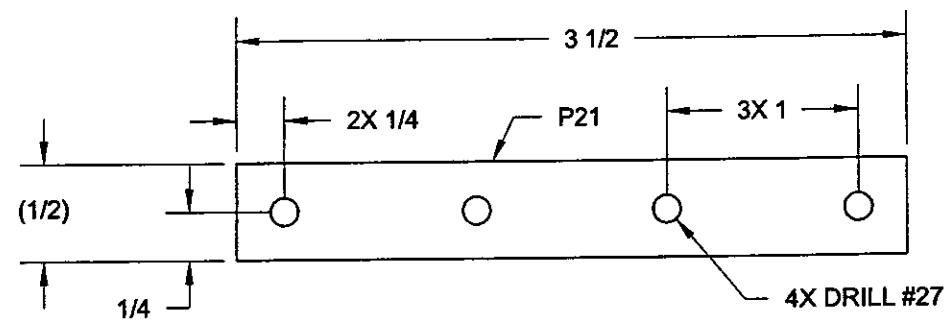

FIGURE 3: FABRICATING CIRCUIT BREAKER BUSS BAR
Step 3: Fabricate the P21 and P22 Buss Bars from ES BUSS BAR-063X.5X12 copper plate as shown in Figures 3 and 4. The WH-801 Rt. Console Template may be used to pilot-drill before drilling to final size.